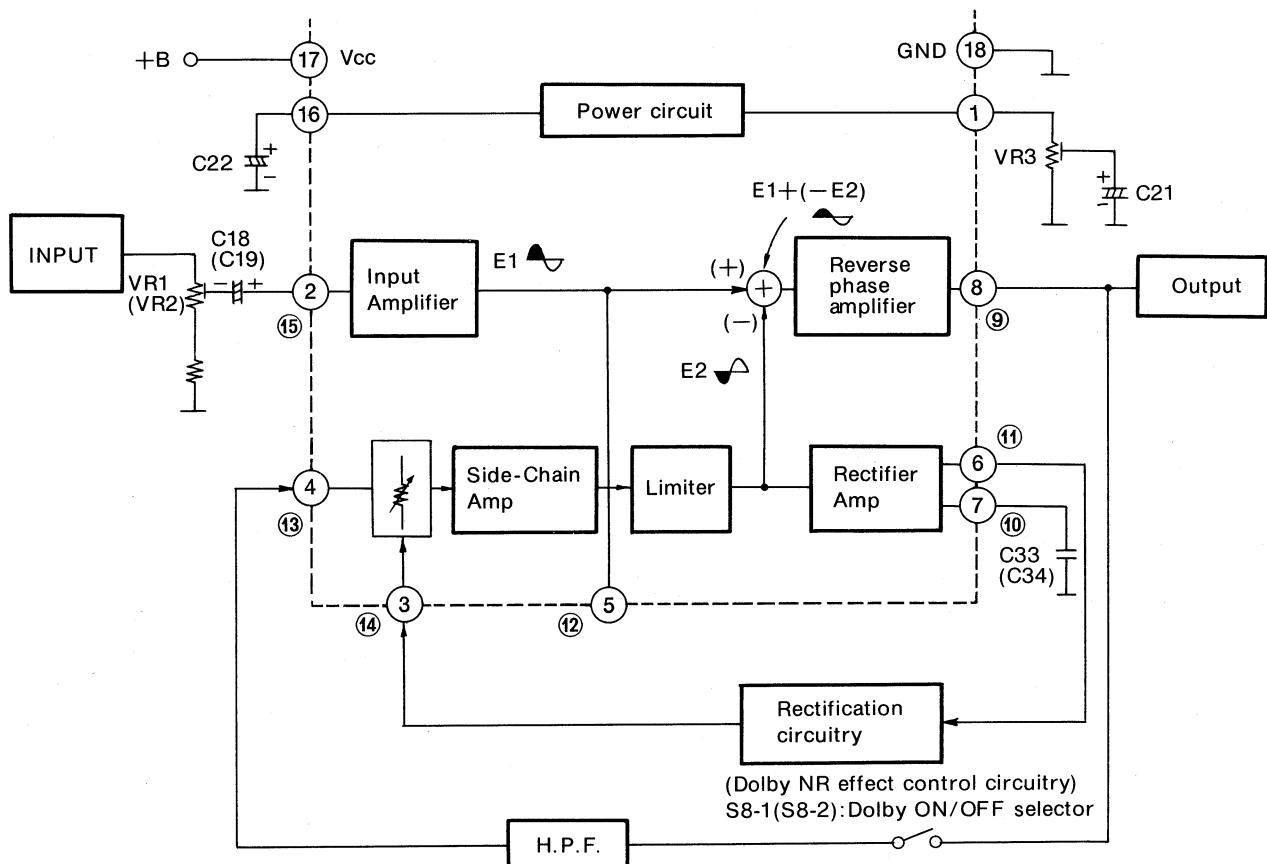

Fig. 35 Block Diagram-IC3 RVIHA11226 (Cassette Deck)
- When Q9 (Q10) is ON, the electrolytic condenser is connected in parallel with C207 (C208), and this becomes the circuit shown in Fig. 35 Ⓑ.